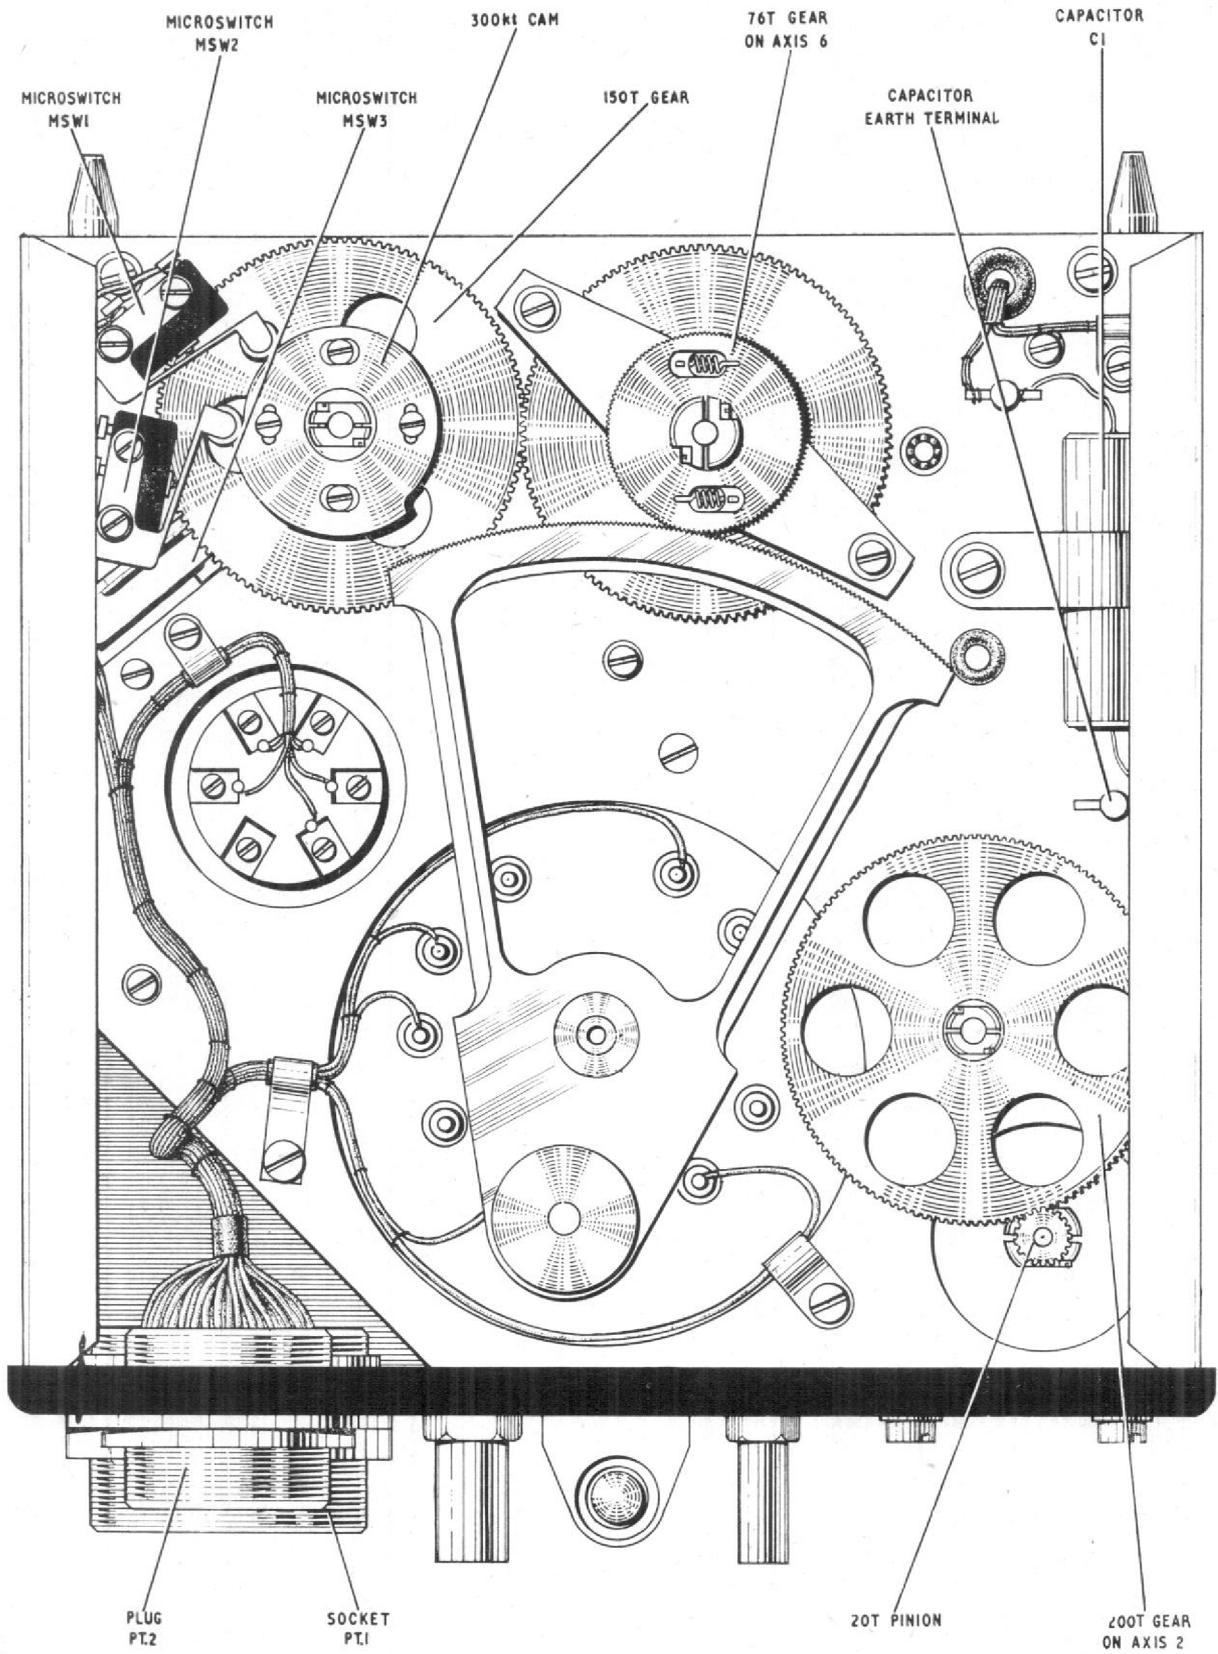
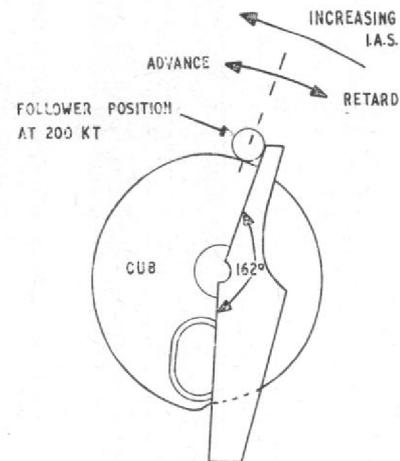

Fig. 1. Pitot-static transducer, Type A—underside view
Fig. 2. Adjustment of compensating drive unit
1. The tests detailed in this appendix are additional to the standard serviceability test (App. 1) and are to be applied during fault diagnosis (App. 2). Unless otherwise stated, tests must be carried out with the test layout shown in App. 1, fig. 1 (if test set, Type 9 is used) or fig. 2 (if test set, Type 9A is used). The transducer cover must be removed and the transistor amplifier placed in the servicing position.
- (2) Set the pitot-static pressure to a value greater than 66.44 mb (200 kt), to prevent hunting.
- (3) Set the valve voltmeter to the 300mV range and connect across capacitor C2, with the earth terminal of the meter connected to the earth terminal of C2 (fig. 1).
- (4) Set the PCU switch to ON and switch S7(S1) to ON.
- (5) Check that the valve voltmeter indicates a null not greater than 2mV r.m.s., reducing the range of the meter as necessary.
- (6) If the null indication is greater than 2mV r.m.s., adjust RV5 (Chap. 1, fig. 2) to obtain an indication of not greater than 2mV r.m.s.
- (7) If the smallest null obtained is greater than 2mV r.m.s. carry out the voltage checks detailed in App. 2. If the checks are correct, declare the transducer unserviceable.
14. Wind the 200T gear of axis 2 (fig. 1) five revolutions in a clockwise direction away from the null and note the valve voltmeter reading at each revolution. Check that the meter readings are as shown in Table 1, Col. (b) and (c). If any reading is incorrect and cannot be corrected by adjustment of RV5, declare the transducer unserviceable.
(2) With test set switches set as in para. 13, sub-para. (4), wind the 200T gear of axis 2 (fig. 1) one turn against the servo action and then release it.
(3) Check that the gear makes one overshoot and one undershoot only, before coming to rest.
(4) Wind the 200T gear of axis 2 one turn in the direction of the servo action and then release it.
(5) Check that the gear makes one overshoot and one undershoot only before coming to rest.
(2) Connect the valve voltmeter, set to the 10V range, across capacitor C1, with the meter earth terminal connected to the capacitor earth terminal (fig. 1).
(3) Set the PCU switch to ON and switch S7(S1) to ON.
(4) Check that the valve voltmeter reading does not exceed 5V r.m.s.
(5) Turn the 200T gear on axis 2 (fig. 1) three revolutions in a clockwise direction, against the servo action. Release the gear and mark the position at which it comes to rest. Turn the gear in a counter-clockwise direction three revolutions, then release and mark the position at which it comes to rest.
(4) Apply a pitot-static pressure of 66.44 mb (200 kt) to the transducer.
(5) Check that the position of the compensating drive unit cam follower is as shown in fig. 2. If necessary, obtain this condition by slackening the screws on the split clamp securing RV3 spindle, and rotating the compensating drive unit. Tighten the split clamp screws, using a torque screwdriver set to the correct loading (see Table 2).
(2) Set the PCU switch to ON and switch S1(S12) to TEST 2 (SELF TEST 2). Check that the SDR reading is 00000 ± 1 division.
(3) Set S1(S12) to I.A.S. and allow a warm-up time of 15 min. to elapse.
(4) Set the pitot-static pressure to 50.6 mb (175 kt). Check that the SDR reading is 00000 ± 31 divisions.
(5) If the SDR reading is incorrect, check that the cam follower of the compensating drive unit is in the correct position (App. 2). A method of checking this position is shown in fig. 2. The template shown in this figure may be constructed from any thin rigid material.
(7) Set the pitot-static pressure to 16.33 mb (100 kt). Check that the SDR reading is 00350 ± 2 divisions.
(8) If the SDR reading is incorrect, release the three 6 B.A. screws clamping synchro CX1 (Chap. 2, fig. 2). Without disturbing the gear train, rotate the body of CX1 to obtain the correct reading. Exercise care when making this adjustment, since space is limited.
(9) Tighten the three 6 B.A. clamp screws, ensuring that the SDR reading does not change.
(10) If the SDR readings are incorrect, repeat the procedure of sub-para. (4) to (6),
retarding the cam slightly if the errors are positive and advancing the cam if the errors are negative (fig. 2).
20. These microswitches are shown in fig. 1. Microswitch MSW1 operates at 300 kt and MSW2 operates at 400 kt. The cam which operates MSW1 is mounted above that which operates MSW2 (when viewed with the transducer inverted) and so must be removed when the latter cam is adjusted. When both microswitches are to be adjusted, MSW2 must be adjusted first.
23. This microswitch is shown in fig. 1. It is operated by a stop mounted on the 150T gear of axis 7, the stop being mounted on the underside of this gear. The microswitch is set-up as follows:—
- (2) Disconnect the lead on terminal N on the magnetic amplifier (Chap. 2, fig. 2).